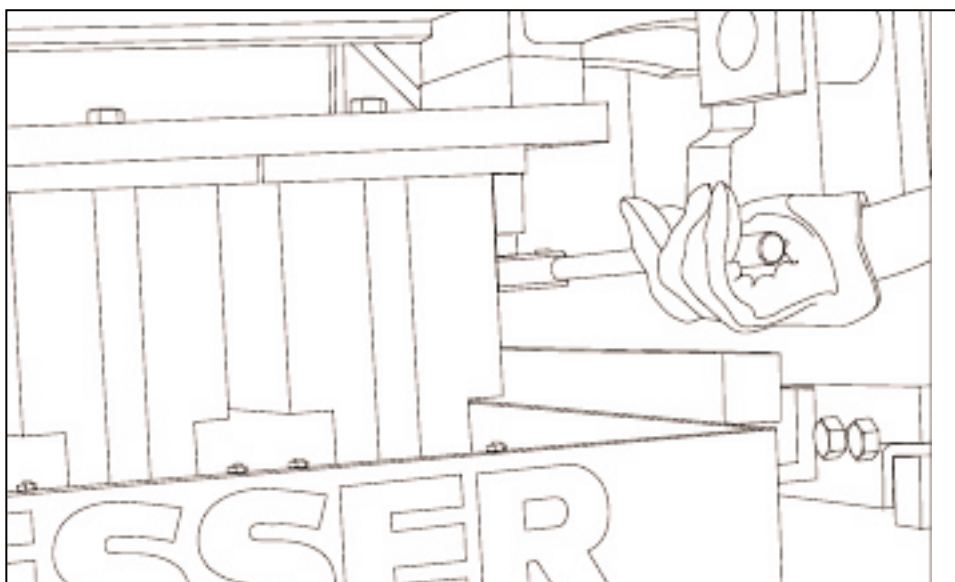

Figure 5.15 BOLT STRIPPER HEAD PLATE TO STRIPPER HEAD FRAME.
- 5.4.23 Bolt stripper head plate to stripper head frame. **Do not tighten bolts completely.** Tighten until head plate contacts the stripper head frame (see figure 5.15).